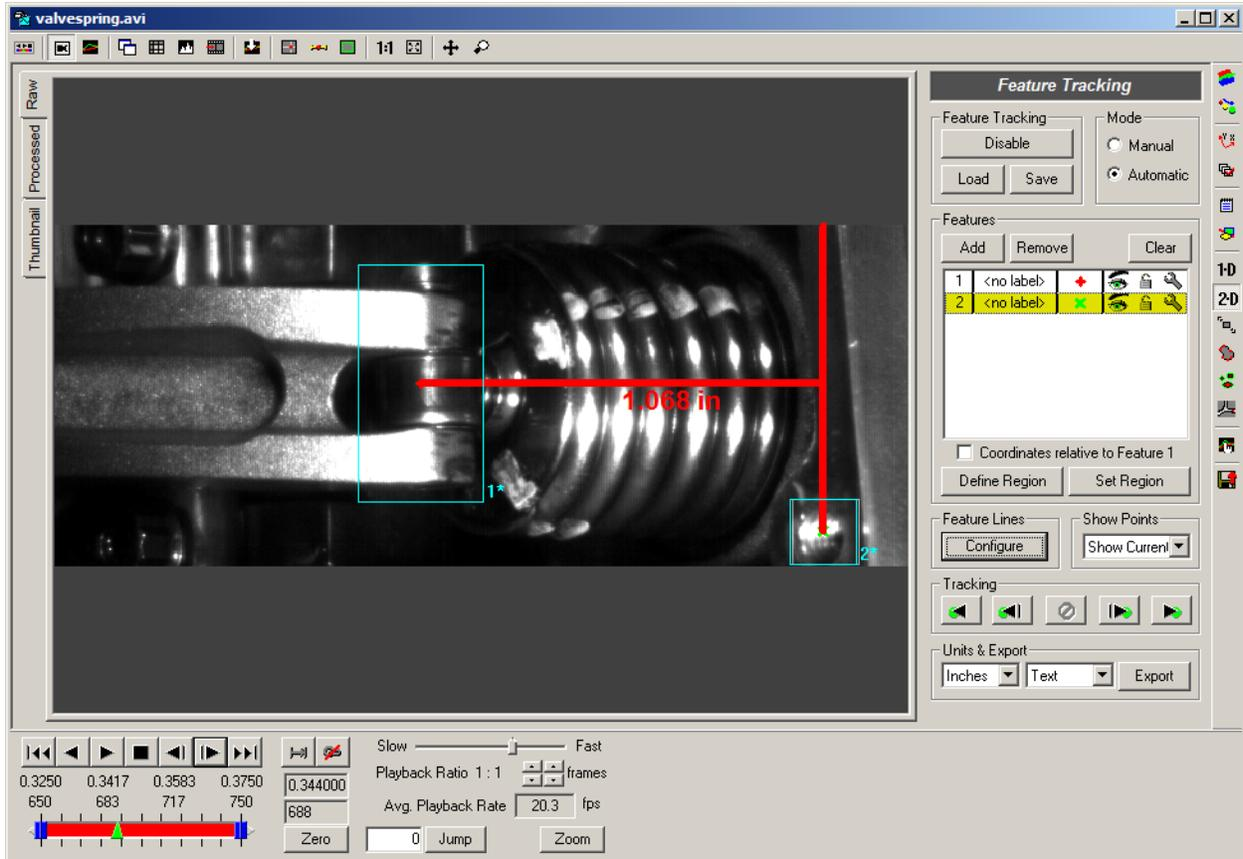

Figure 8. Dynamic length measurement
20. Click **Apply** and then **Close**. The video should now display the distance from Feature 1 to the line created by connecting Feature 2 to the Vertical + direction, as shown in Figure 8.